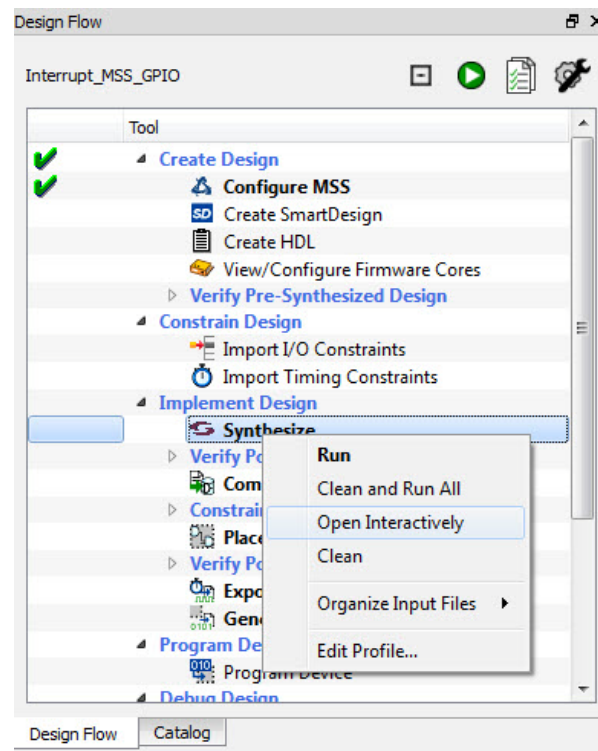

Figure 4-12 • Invoking the Synthesis Tool
1. In the Design Flow window, right-click **Synthesis** and choose **Open Interactively** to launch Synplify Pro (Figure 4-12).